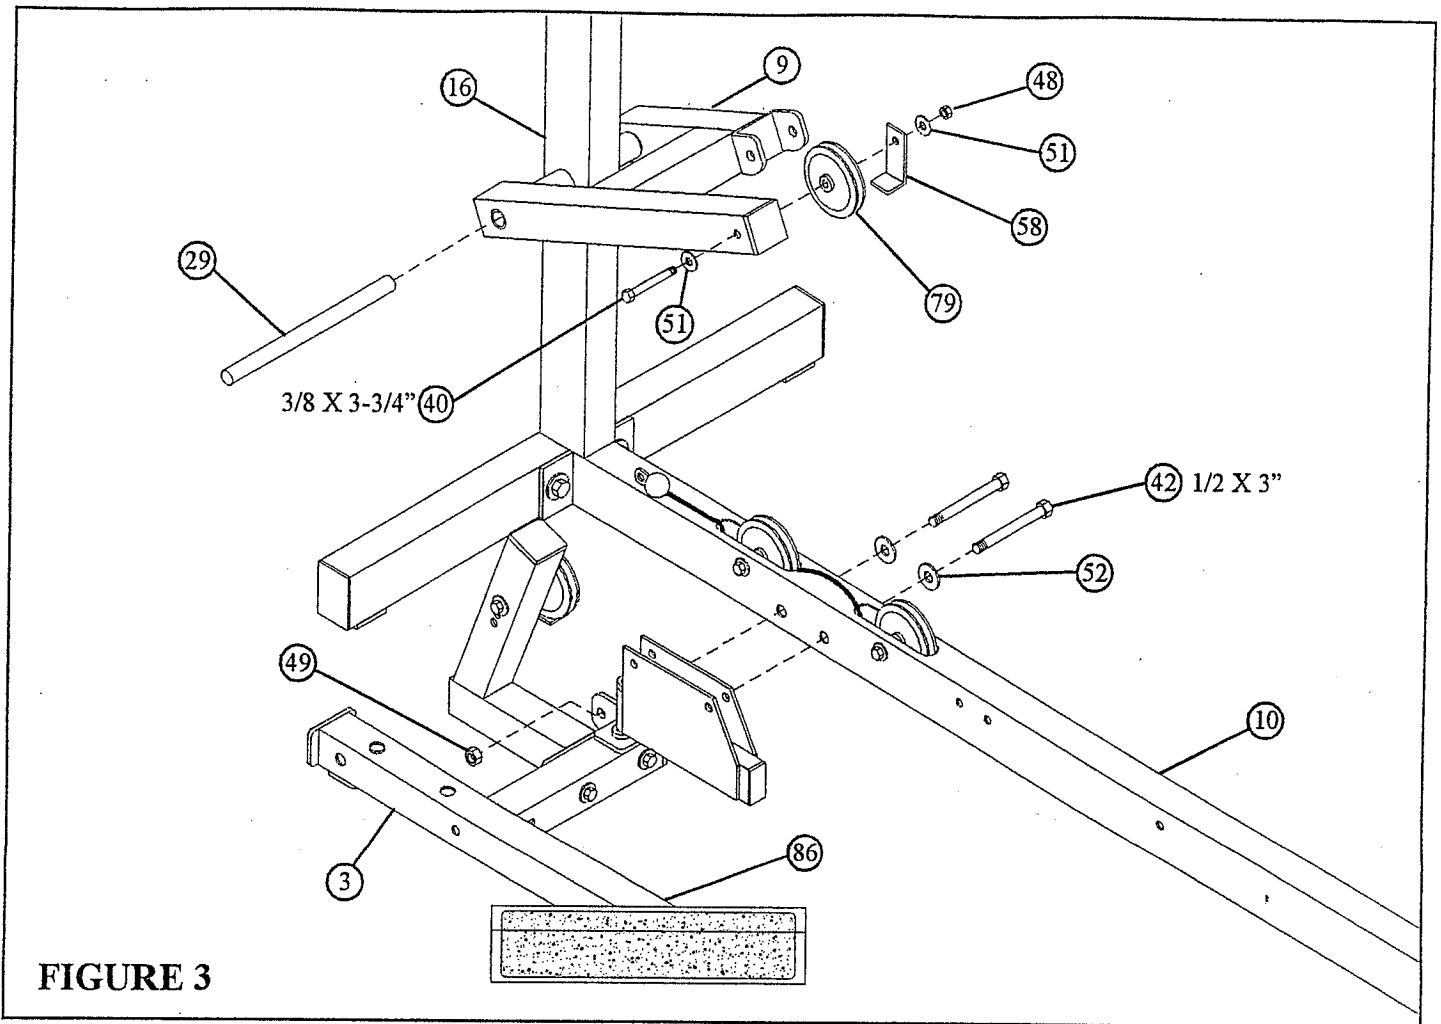

**FIGURE 2**
- Securely assemble one 3-1/2" PULLEY (79) to the top hole of the LEVER STOP (12) using one 3/8 X 3-3/4" BOLT (40), two 3/8" WASHERS (51), one 2-3/8" RETAINING CLIP (58), and one 3/8" LOCKNUT (48). The extra holes in the LEVER STOP (12) are to be used for cable adjustment.
- Securely attach LEVER STOP (12) to WEIGHT STACK BASE (3) using two 1/2 X 3" BOLTS (42), two 1/2" WASHERS (52), and two 1/2" LOCKNUTS (49).
- Attach SWIVEL PULLEY BRACKET (23) to the WEIGHT STACK BASE (3) using one 1/2" LOW HEIGHT LOCKNUT (50). (NOTE: Securely tighten, then back nut off 1/4 turn to allow the SWIVEL PULLEY BRACKET (23) to rotate freely.)
- Center 4 X 14" NON SKID STRIP (86) on WEIGHT STACK BASE (3) as shown in FIGURE 2.